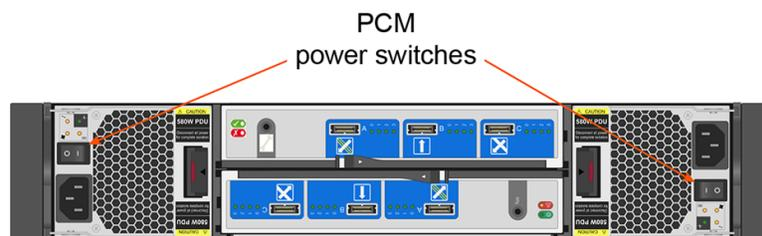

Figure 17-2. PCM Power Switches
Turn both PCM power switches to the off (O) position. See Figure 17-2.